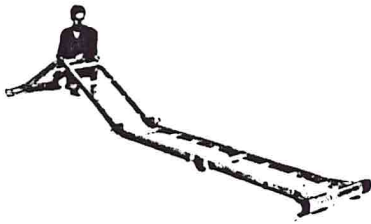

FIGURE 2.
- 2) Extend remaining rails as shown in figure 2.